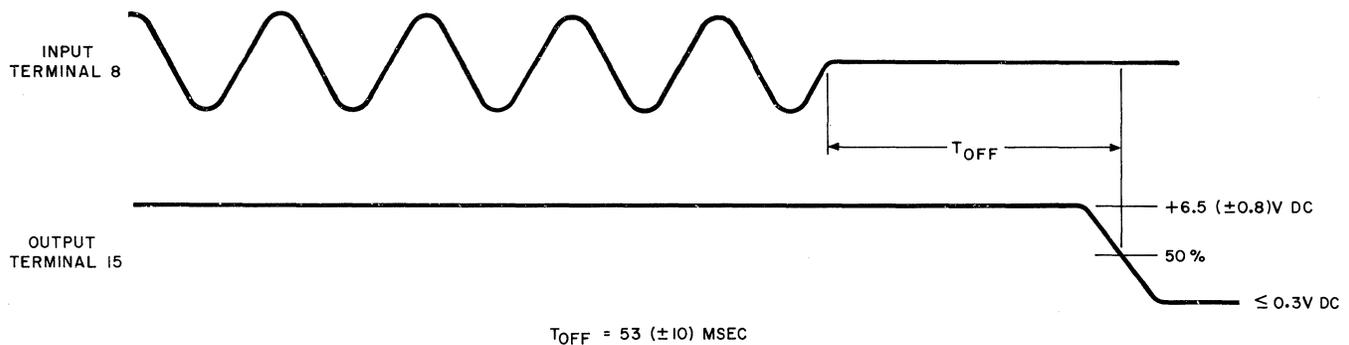

Fig. 26 — Automatic Gain Control 2 Test
(5) Set the scope EXT SYNC TRIGGER selector to the (−) negative position. The input and output waveforms shall be as specified in Fig. 26.